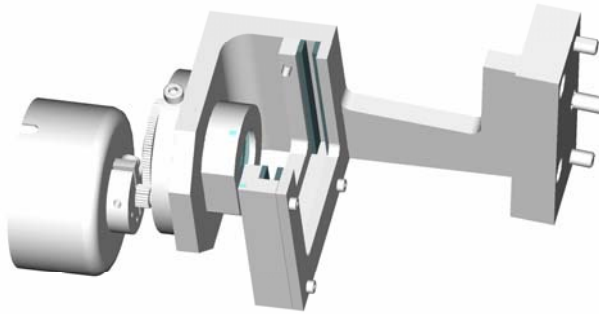

Figure 8-6
6. In order to provide a fine adjustment device, temporarily place the gear clamp (an integral part of the cover previously removed) over the smaller gear and tighten the clamp. This will allow the cover to be rotated in order to move the Iris in small increments for the final adjustment. See Figure 8-6 showing the cover and gear clamp temporarily installed.